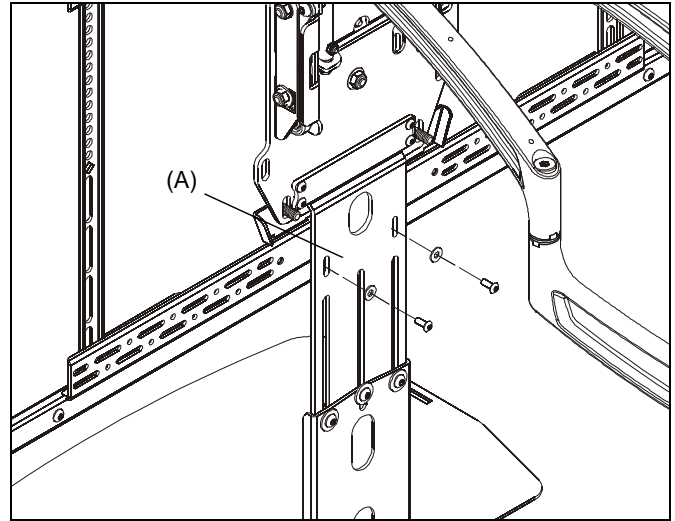

Figure 7
**NOTE:** If also installing side speaker brackets (TA300), attachment bracket (A) should also be attached to TA300 horizontal brackets for additional support. Use hardware provided with TA300. (See Figure 7)